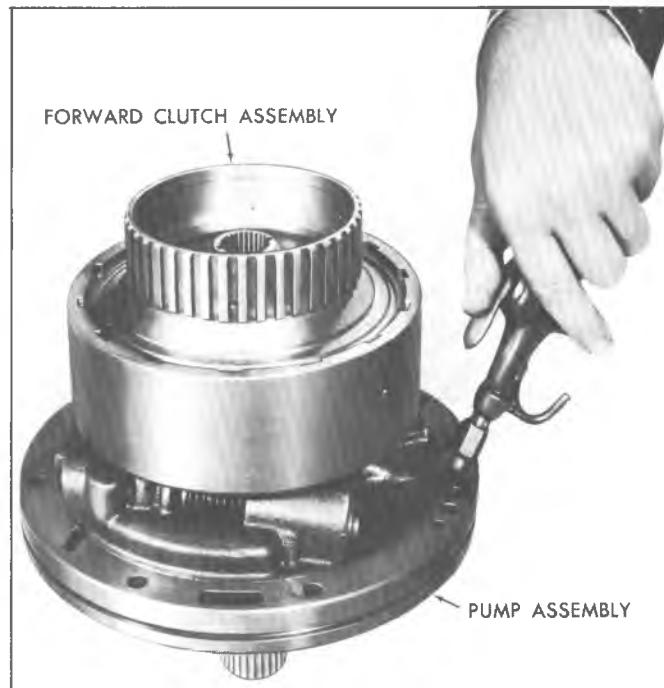

Fig. 7A-90C--Air Checking Forward Clutch Assembly
11. Install direct clutch hub and retaining snap ring (Fig. 7A-89C).